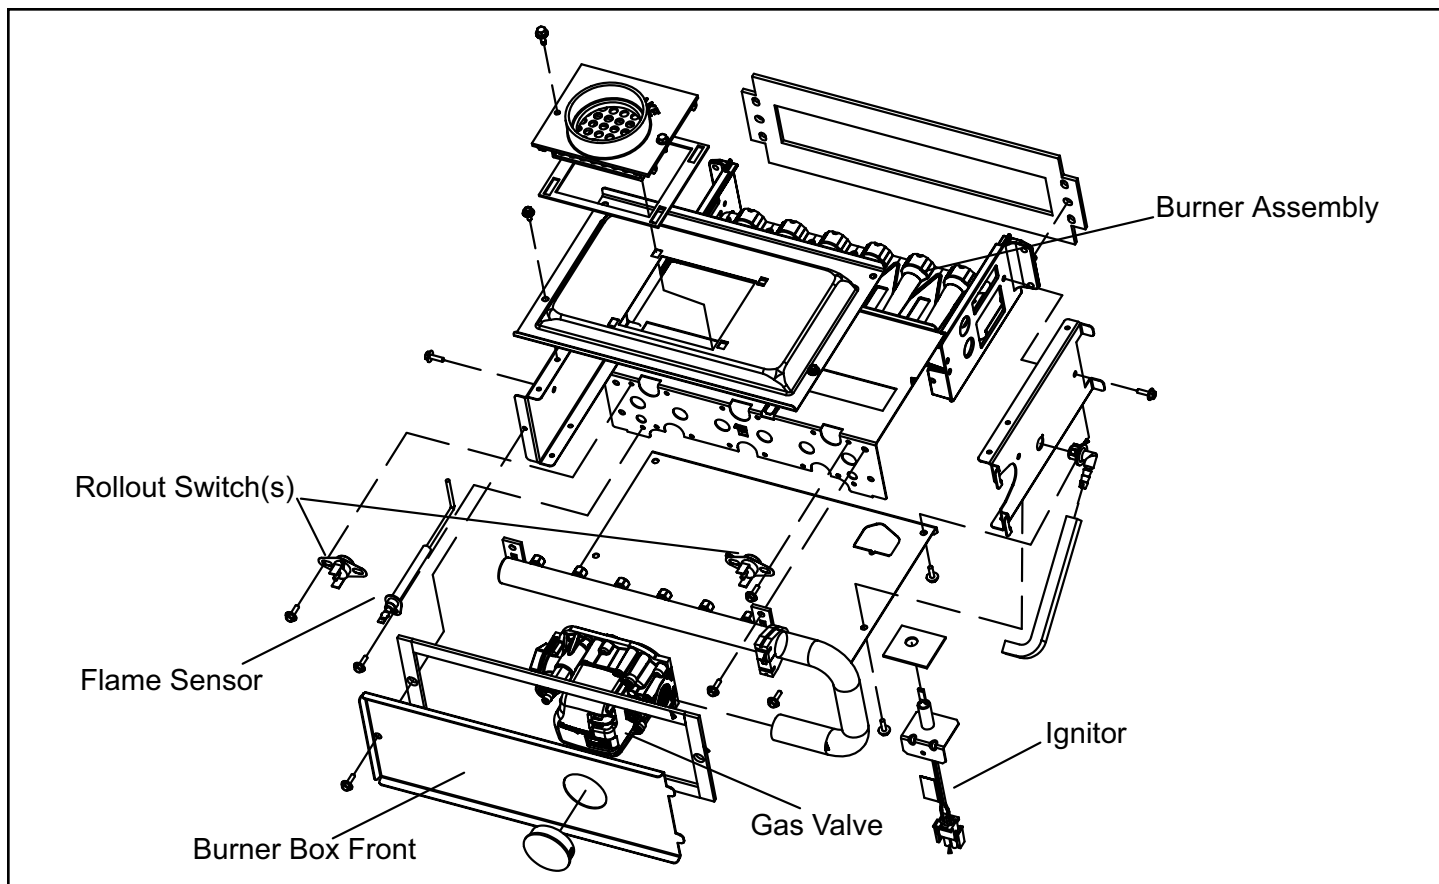

Figure 5. Burner Box Assembly
The hot surface ignition control system consisting of an integrated control (Figure 3 with control terminal designations in Table 1 through Table 3), sensor and ignitor (Figure 5). The integrated control and ignitor work in combination to ensure furnace ignition and ignitor durability. The integrated control, controls all major furnace operations. The integrated control also features a RED LED for troubleshooting and two accessory terminals rated at (1) one amp. See Table 4 or Table 5 for troubleshooting diagnostic codes. The nitride ignitor is made from a non-porous, high strength proprietary ceramic material that provides long life and trouble free maintenance.
Ignitor (Figure 5)
Flame Rollout Switches (Figure 5)
Flame Sensor (Figure 5)